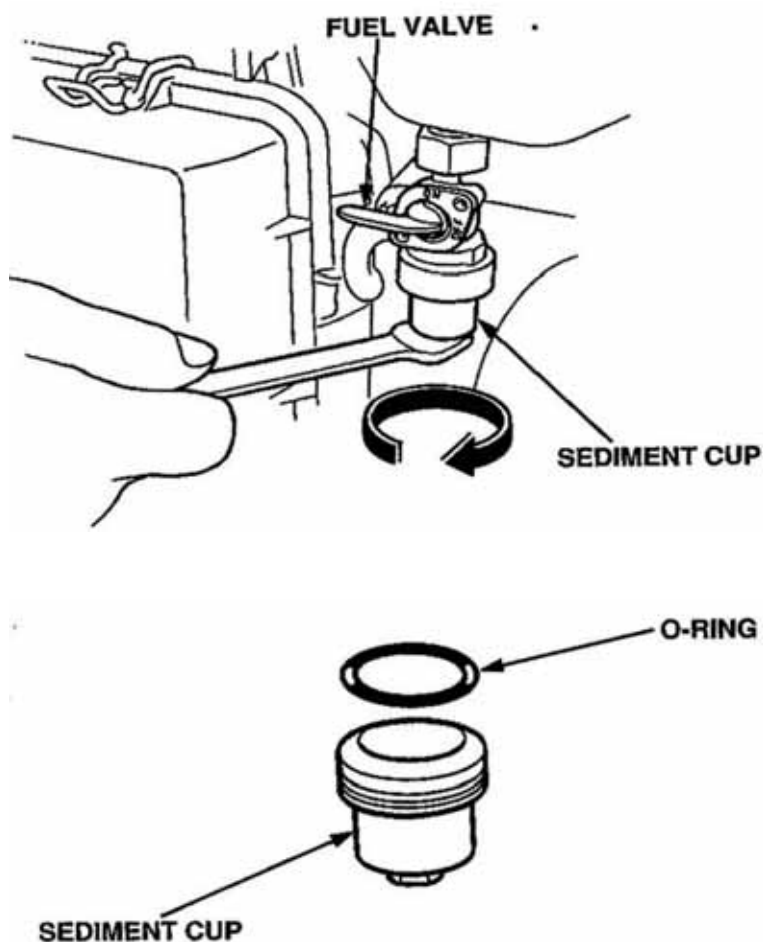

Fig 17
1. Turn the fuel valve to the OFF position. Remove the sediment cup, and O-ring. (Fig 17)